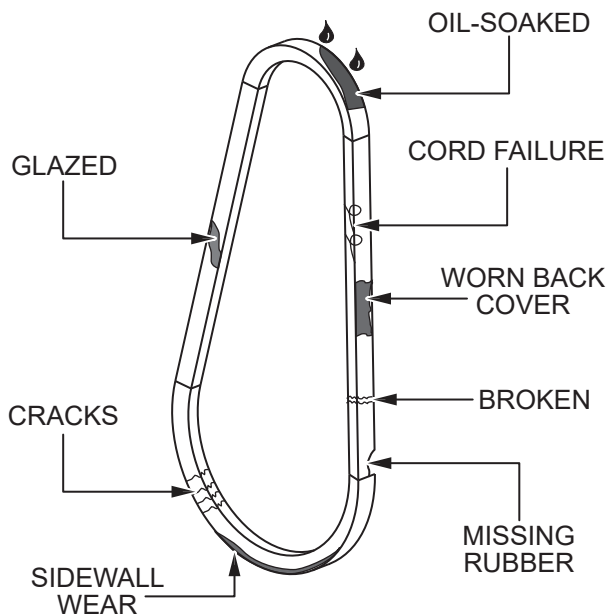

Figure 17. V-Belt Inspection
1. Inspect the V-belt (Figure 17) to determine if it is frayed, peeling, full of tiny cracks, has pieces of rubber missing, or is otherwise damaged.
2. Inspect the V-belt (Figure 17) to determine if it is oil soaked or *glazed* (a hard, shiny appearance on the sides of the belt). Either of these conditions can cause overheating of the belt, which may weaken the belt and increase the possibility of it breaking.